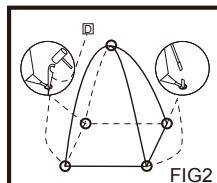

FIG2
3. Stand the tent <A> up and push the ends of the poles into the iron bars (which are on the each corner of the tent <A>). (FIG2)
4. Fasten the roof of the tent <A> onto the pole junction with the sewn-on tie. (FIG2)
5. Secure the tent by pushing the tent pegs <D> into the ground loops. (FIG2)